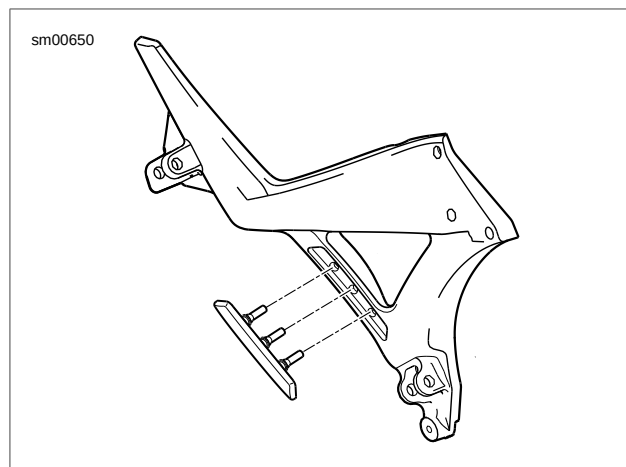

Figure 2-160. Heel Guard: Ulysses
1. See Figure 2-160. If necessary, cut the rubber heel guard tabs on the inside of the footpeg mount to remove the heel guard.